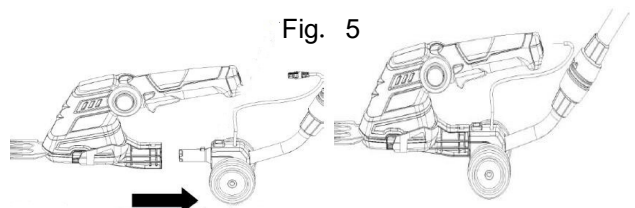

Fig. 6
- 2) Push the tool onto the telescopic handle as shown by the direction of the arrow in Fig. 5. Make sure that the wheel cart is correctly engaged. Then insert the connection cable into cable inlet on the tool as shown in Fig. 6. Press the handle release button as shown in Fig. 7 to rotate the tool to the left or right for use as an edge trimmer. The wheel cart will rotate about 90° in either direction and will click when in the proper position.